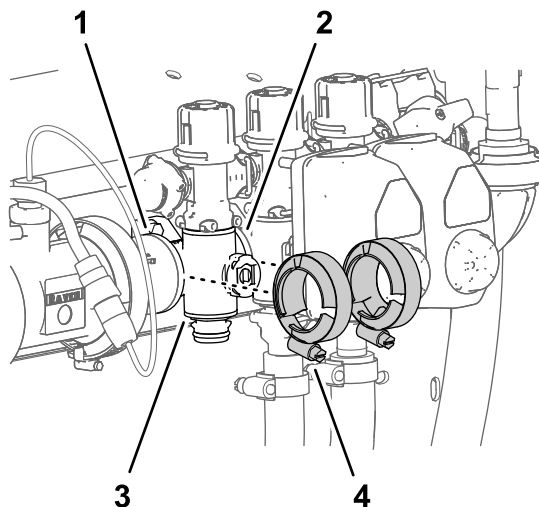

Figure 111
3. Remove the 2 flange clamps that secure the section-manifold valve to the flanges of the adjacent components (Figure 111).